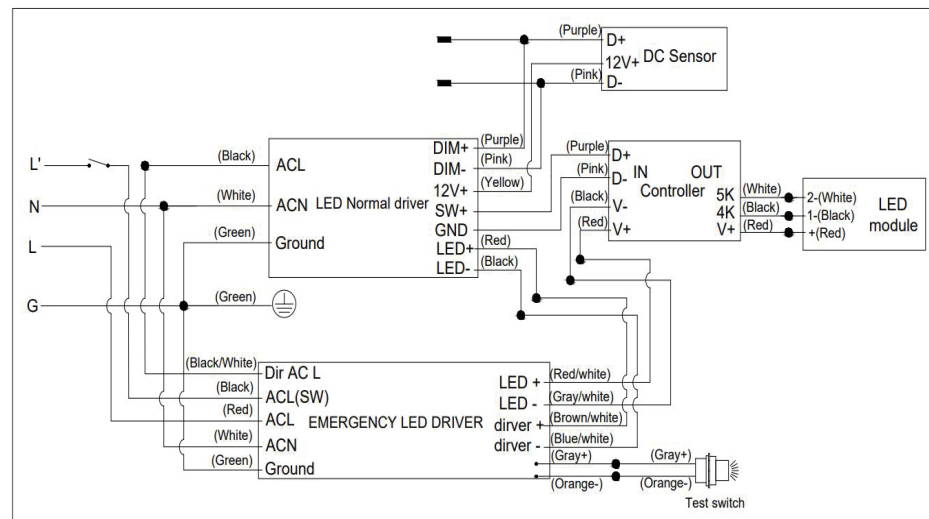

Figure 10
Step 2. Install the emergency power unit onto the side of the power box, then connect the wiring according to the wiring method. (Figure 10)